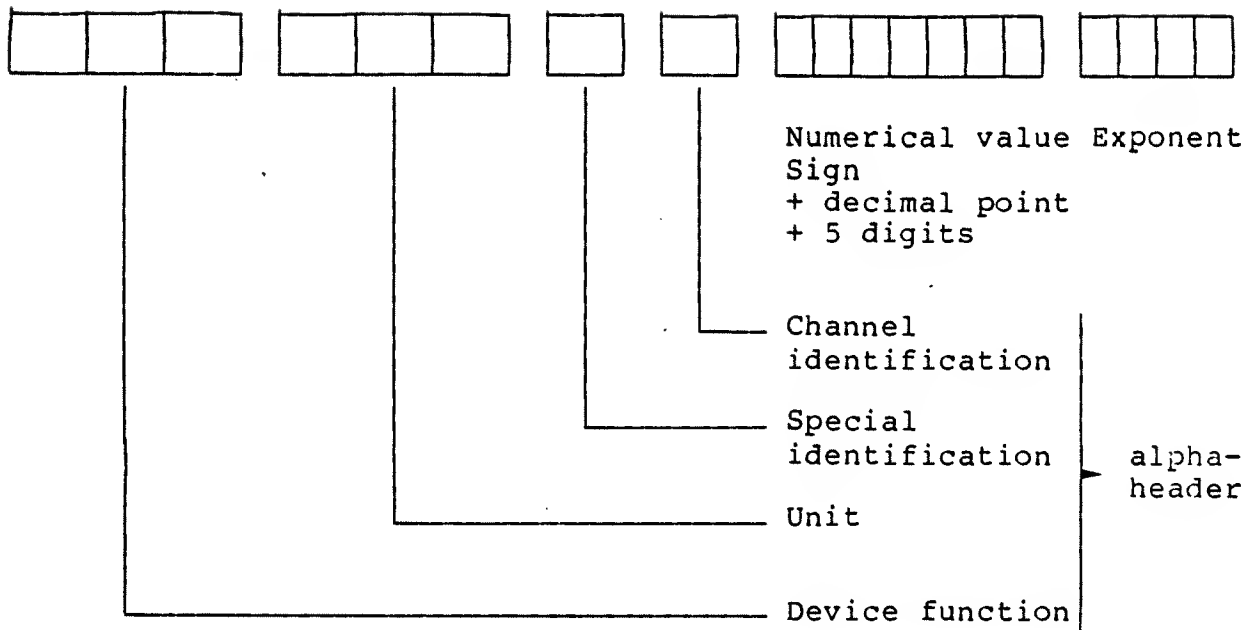

Fig. 2-13 Format of data output
The measured value, reference value or error code can be output either as numerical value only (control character N1) or as numerical value plus preceding 8-digit alphaheader (control character N0). The structure of the alphaheader is shown in Fig. 2-13. Three characters are provided for the device function (Table 2-19), three for the unit (Table 2-20), one for special identification such as overflow (0), overranging or underranging in case of range hold (H, L) etc. and one character for allocating the numerical value to a measurement channel (A for channel A, B for channel B).